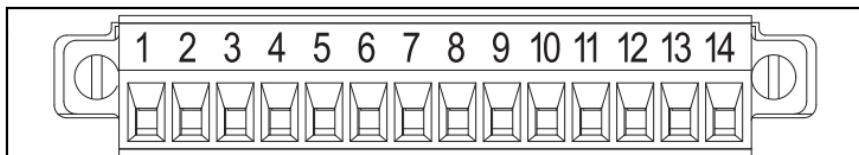

Figure 9: Pin Assignment/Identification for Accessories Plug
- When installing the accessories kit to the MTP6000 Car Kit Junction Box, take note of the pin assignments and numbering identification laid on the Accessories Plug (refer to Figure 9 and Table 1 below).